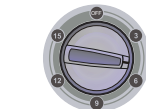

Figure 2
2. Fill with water to the set level and add the dissolved washing powder. (Figure 2)